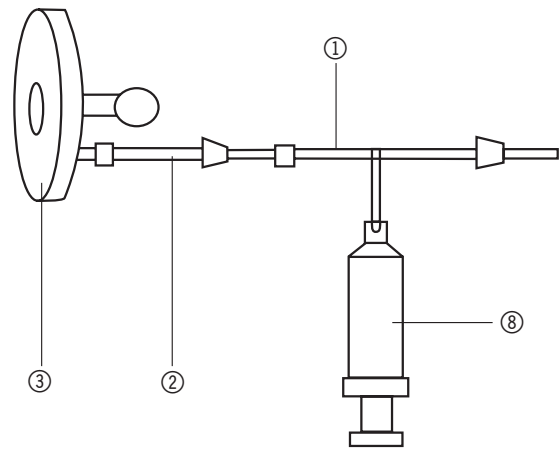

Fig.1
- Connect the hose between the hand pump ⑧ and the Magdeburg plate ③ as shown in Figure 1.